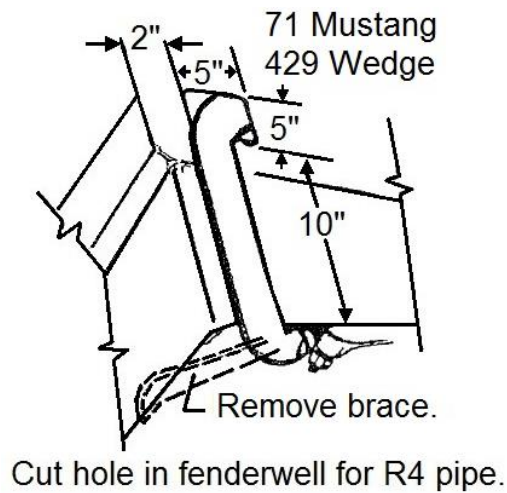

Figure 1
2. Use an air chisel or cutting torch to cut a hole in the fenderwell and remove the corner brace as per Figures 1 & 2.